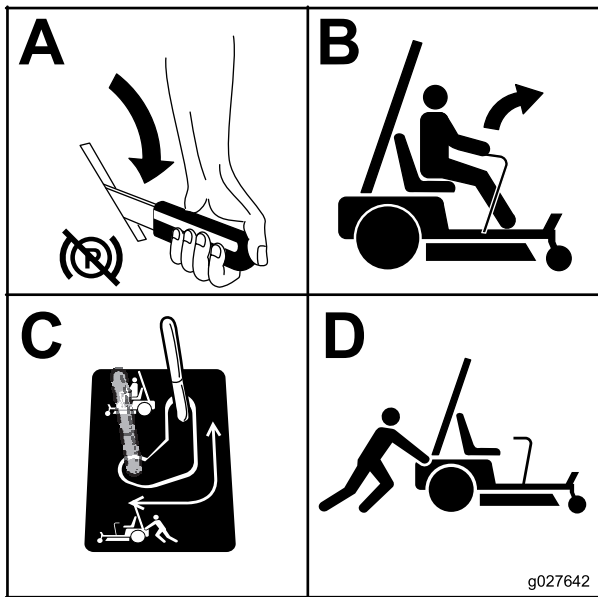

Figure 27
3. Do this procedure on each side of the machine Figure 27.
4. Move the bypass to the position for operating the machine (Figure 27) to engage the wheel motors.